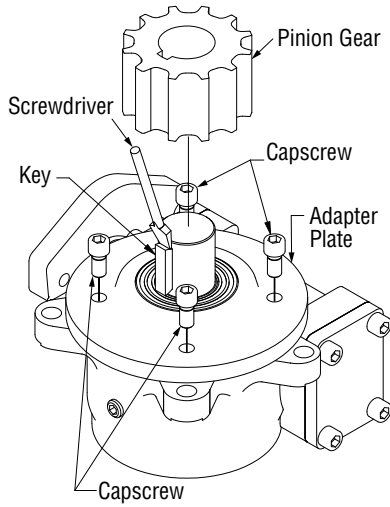

Figure 5-7, Adapter Plate Removal
5. Remove the capscrews from the adapter plate. The adapter plate capscrews are installed with Loctite, use a long handle wrench to them break loose. Lightly tap the back of the adapter plate with a rubber mallet to remove. (Figure 5-7)